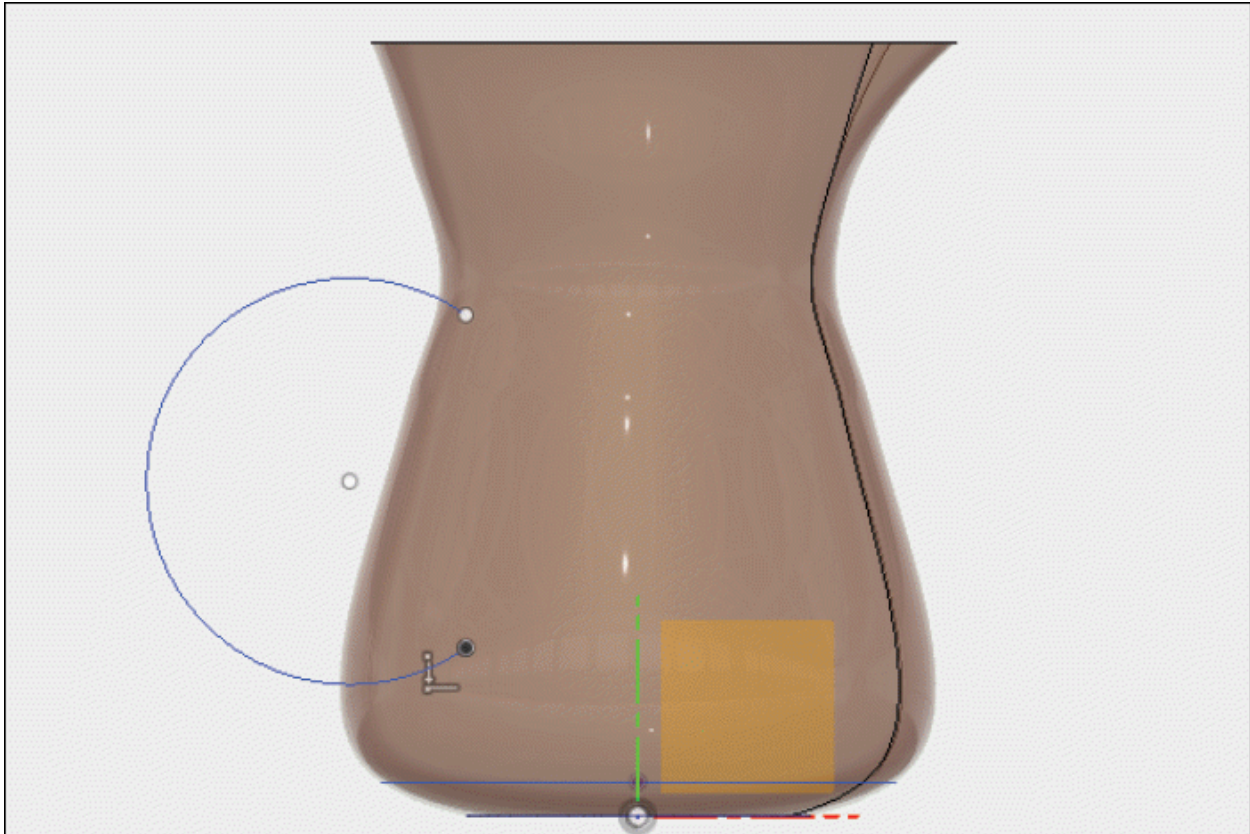

Figure-87. Creating eighth sketch
- Create the sketch as shown in Figure-87.